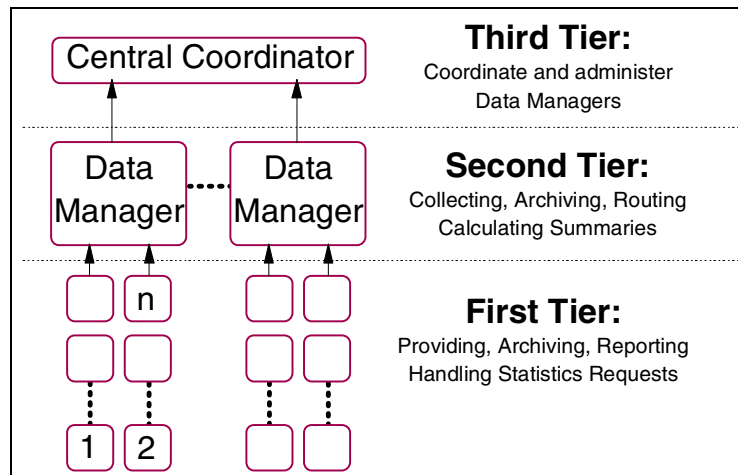

Figure 119. PTPE monitoring hierarchy
- **SP runtime monitoring.** The system administrator should have a global view of SP performance behavior. With reference to Figure 119, similar nodes of the first tier, or Collectors, can be grouped and their performance data summarized by their respective Data Manager node in the second tier. This way, large SP systems can be easily monitored from a single presentation application by viewing node groups instead of individual nodes. The Data Managers are administered by the Central Coordinator in the third tier. The Central Coordinator aggregates the Data Managers' summary data to provide a total performance overview of the SP. Of course, the base PTX/6000 monitoring functions can be used to focus on any particular performance aspect of an individual node.